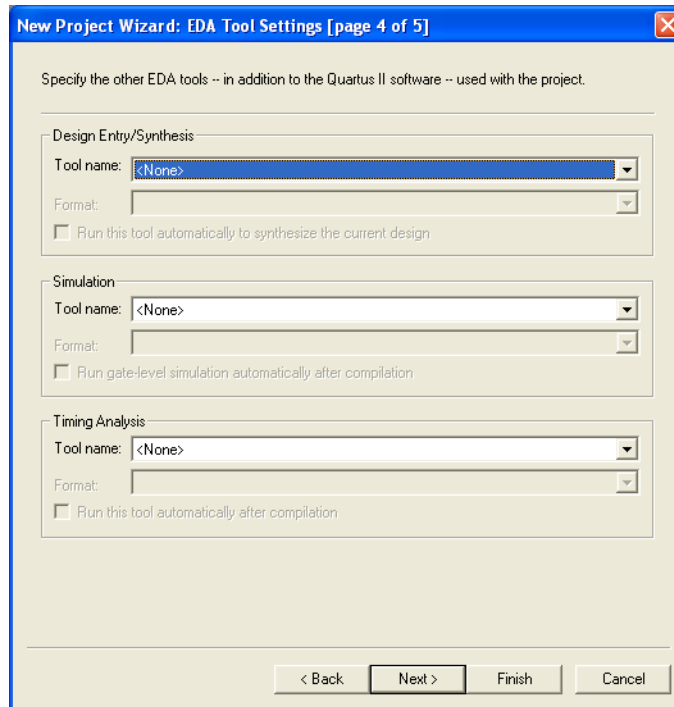

Figure 8. Other EDA tools can be specified.
4. We have to specify the type of device in which the designed circuit will be implemented. Choose Cyclone™ II as the target device family. We can let Quartus II software select a specific device in the family, or we can choose the device explicitly. We will take the latter approach. From the list of available devices, choose the device called EP2C35F672C6 which is the FPGA used on Altera's DE2 board. Press Next, which opens the window in Figure 8.